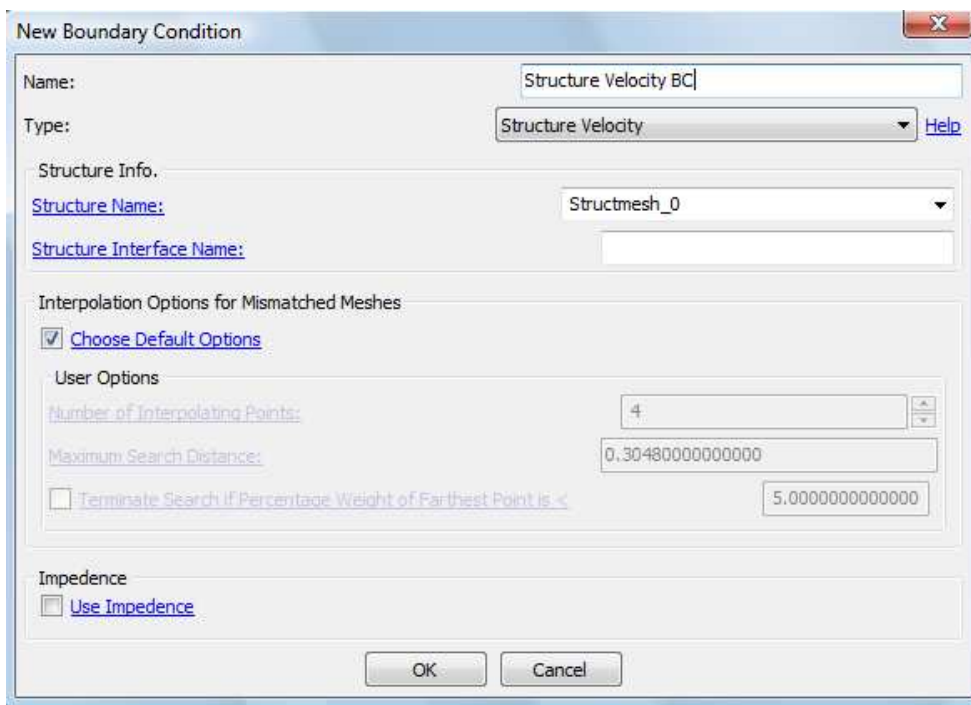

Figure 17: Edit structure velocity boundary condition window.
- Select **Structure Velocity** from the drop-down menu for 'Type'. The window in Figure 17 will appear.